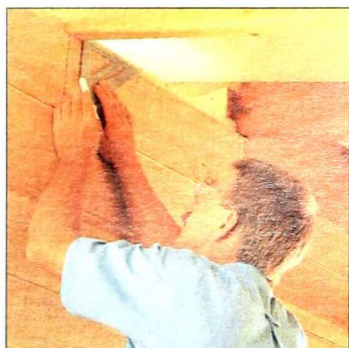
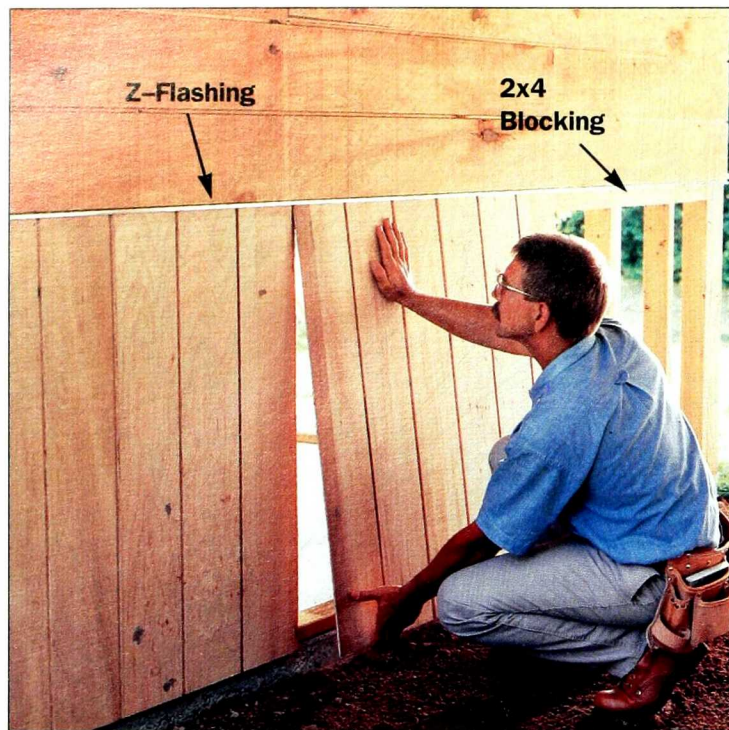

Figure 18: Mark siding to fit around rafter tails while sheets are temporarily tacked in position. Use a jigsaw to carefully cut out the notches.
Figure 19: Install lower siding. Use Z-shaped flashing for weather tightness where siding changes directions. Blocking at seams adds extra support.
- Mark and cut the upper sheets of siding that fit around the rafter tails first (Figure 18). Next, tuck in the Z-flashing and install the lower vertical siding (Figures 19 and 20).